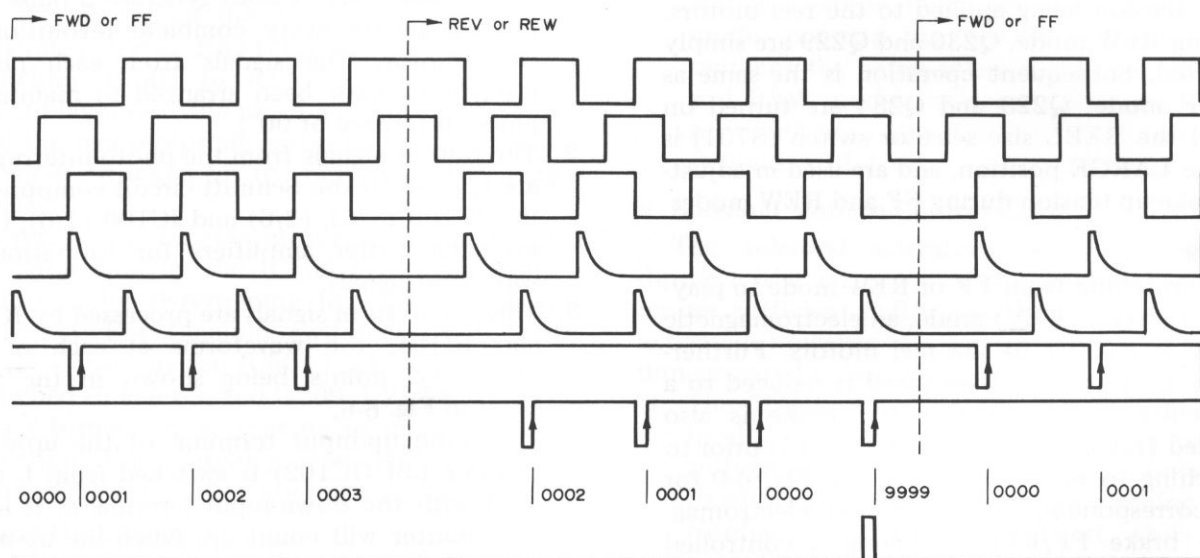

Fig. 6-6 Electronic counter
3. These waveform signals are processed by IC100 and IC101, the waveforms at each of the designated points being shown in the time chart in Fig. 6-6.
4. When the up-input terminal of the up/down counter LSI (IC102) is switched from L to H level with the down-input terminal at H level, the counter will count up. When the up-input is at H level and the down-input terminal is switched from L to H level, the counter will count down. Therefore, when a waveform signal (processed as shown in Fig. 6-6) is applied to the up (pin 18) or down (pin 17) input terminals of IC102, the counter will automatically commence to count up or down accordingly.
5. The (G) and (H) signals applied to the up/down counter LSI (IC102) inputs are processed into signals used for numerical display (single digit, 7 segment dynamic display), and consequently passed to the outputs as digit (grid for FL) and segment (anode for FL) drive signals. These output signals are then passed through the high resistivity buffer amplifiers IC103 and IC104 (open drain type high resistivity ICs used as FL drive buffer amplifiers, and which have been